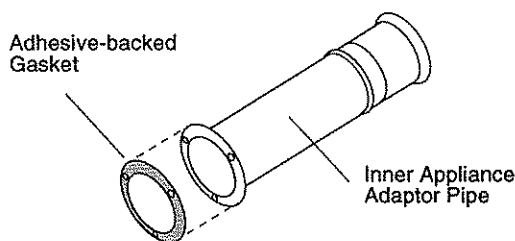

Figure 24. Attach the gasket to the Inner Adaptor.
1. Attach the adhesive-backed gasket (located in the parts bag) to the flat flange of the Inner Adaptor Pipe. Fig.24. If you need to use the Restrictor Plate, attach the gasket to that plate and install the plate, gasket-side down, under the Inner Adaptor Pipe. See Figs. 7 and 9 to determine if you need to install the Restrictor Plate.